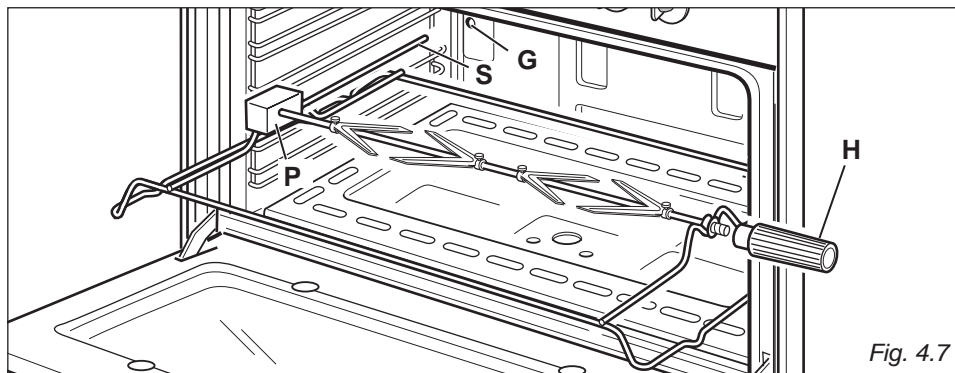

Fig. 4.7
- Insert the rod into the side gear opening "P" (fig. 4.7)